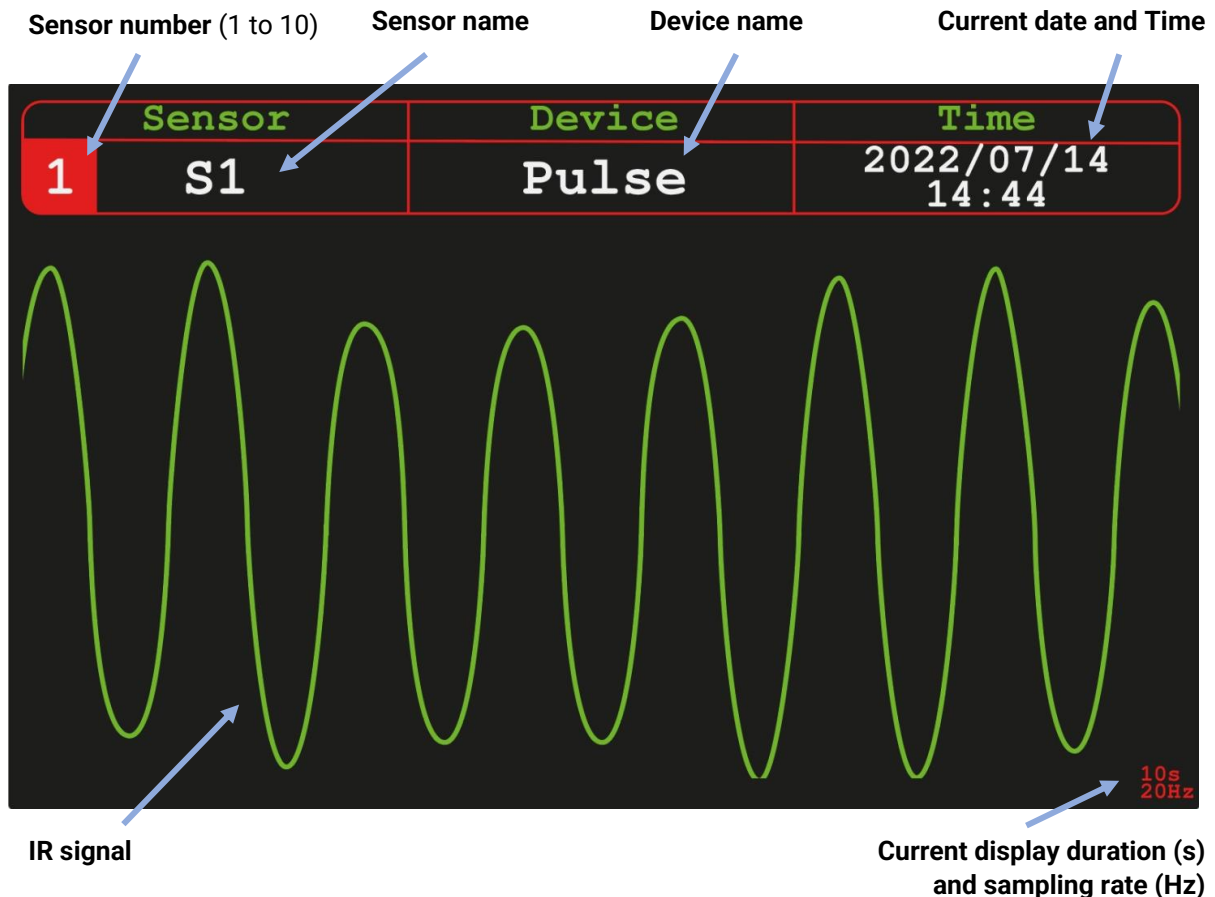

Fig. 2: Readings display.
7. Initially, the display will present the readings for sensor 1 continuously (**Fig. 2**). To change the sensor being plotted in the LCD display, you can press the **Forward Button** or the **Backward Button**. To set automatic rotation of the channel being plotted, press **Forward Button** together with **Backward Button** for a moment. A warning "Autoscroll ON" should show on the screen for a few seconds, and a letter 'A' will remain in the top left corner of the plotted graph as a reminder. To turn off automatic channel rotation, just long-press **Forward Button** and **Backward Button** again. The "Autoscroll OFF" warning will show in the screen for a few seconds, and the letter 'A' on the top left corner of the display will disappear.